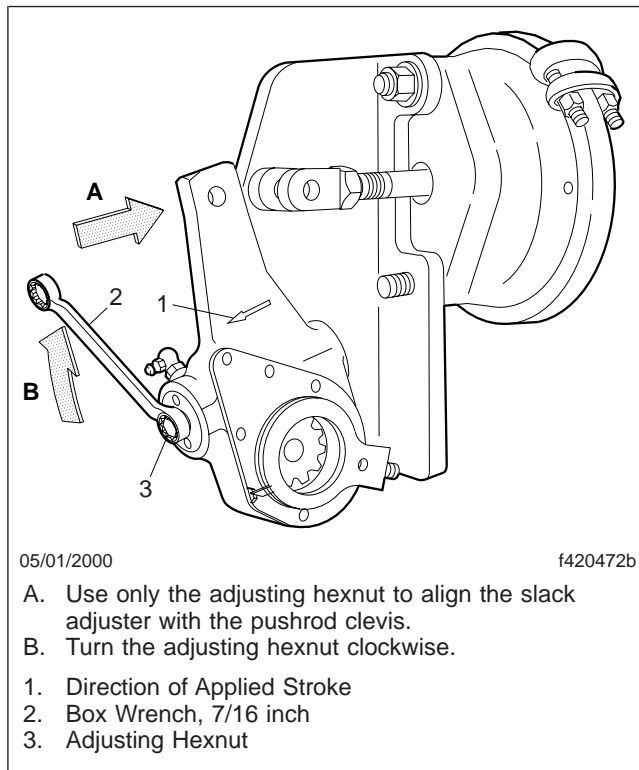

Fig. 2, Slack Adjuster Installation
3. Install the slack adjuster on the camshaft, with the adjusting hexnut pointing away from the brake chamber. See Fig. 2.
5. Using a 7/16-inch box wrench, turn the adjusting hexnut clockwise until the slack adjuster hole is aligned with the pushrod clevis hole. See Fig. 2.